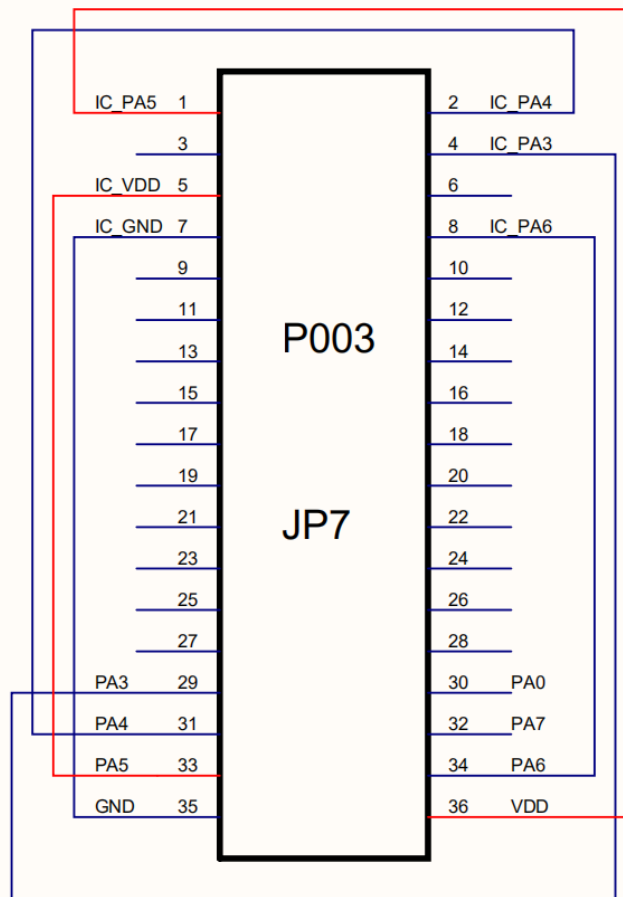

Fig.21: schematic diagram of PMS161-S08B Jumper7 when using p003
2. As shown in figure 21, it is the Jumper7 connection method.